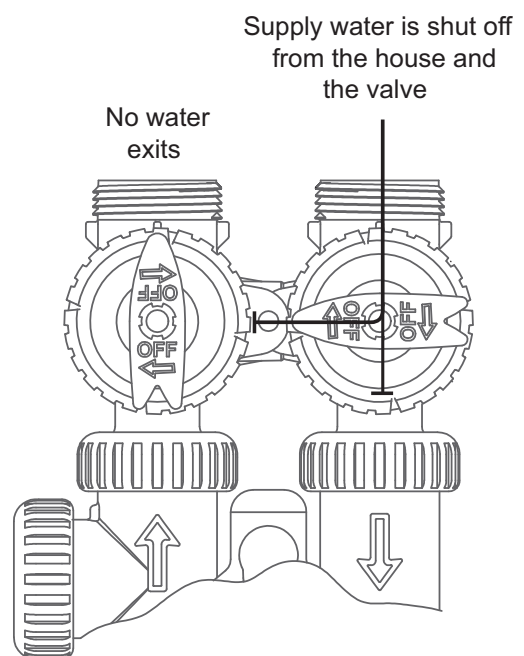

Figure 4 Shut Off Position
- d. **Shut Off Position:** The inlet handle points to the center of the bypass valve and the outlet handle points away from the control valve. The water is shut off to the building. The water treatment system will depressurize upon opening a tap in the building. A negative pressure in the building combined with the softener being in regeneration could cause a siphoning of brine into the building. If water is available on the outlet side of the softener or filter it is an indication of water bypassing the system. Refer to Figure 4. (i.e. a plumbing cross-connection somewhere in the building)